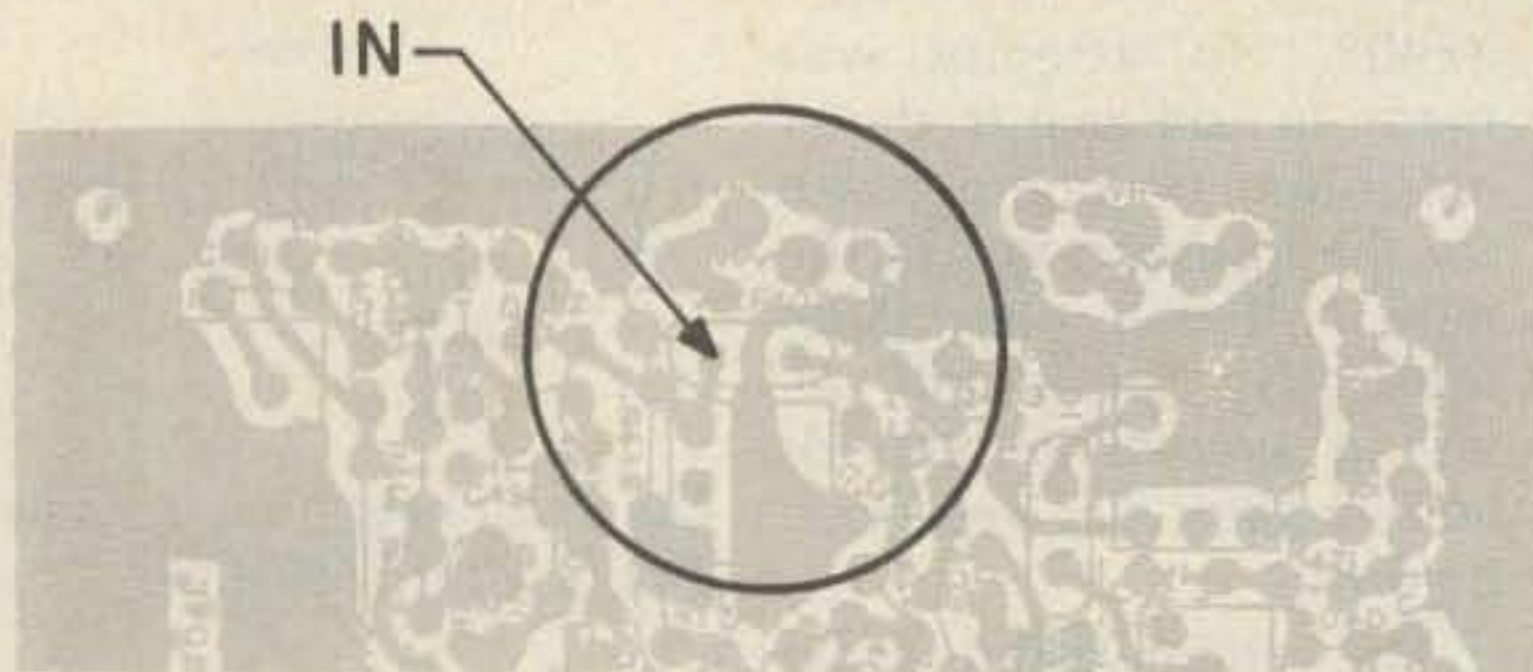

Fig. 5. Foil side of PB-1704 with detail showing required changes. Also see detail 8c.
diagram (Fig. 5) showed what looked like a transformer pin not connected to anything.
1. Clearly identify the three soldered connections of XF402. (See Fig. 5.) Unlike a crystal (which it resembles), it is not plugged into a socket—it is soldered to the board. Its three leads are thin and usually bent over